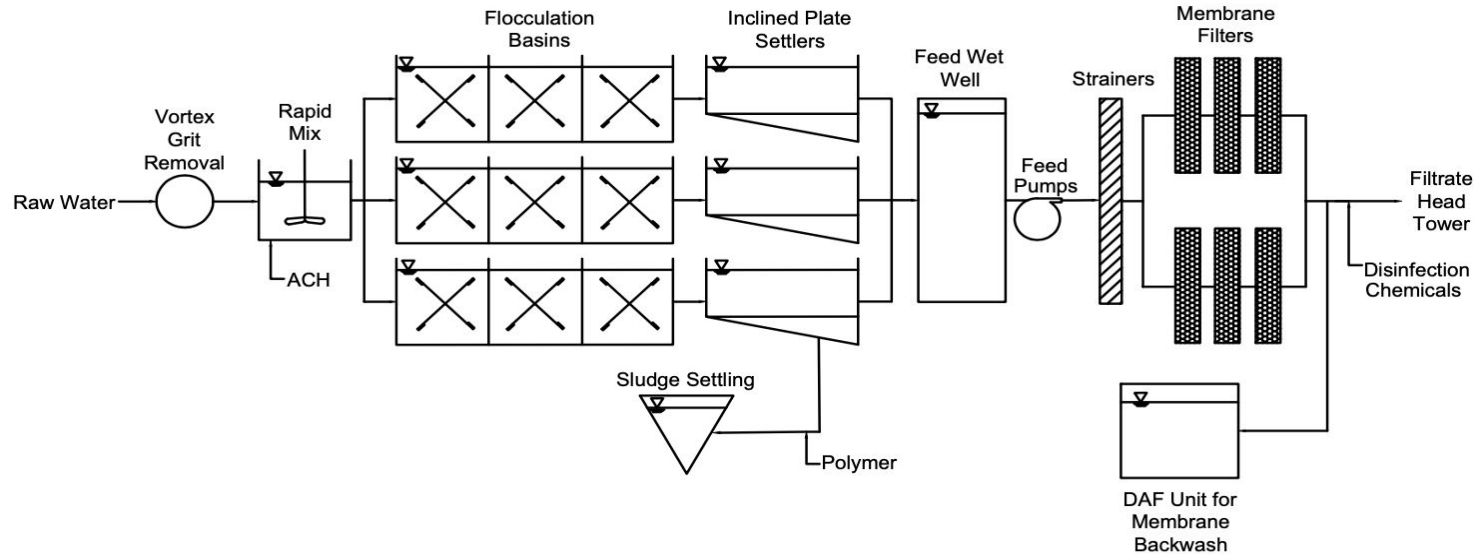

Figure 1.
- Figure 1. Melmer, Isabelle. *Bozeman Water Treatment Plant overall water treatment process*. 2021, CAD drawing, Bozeman, Montana.